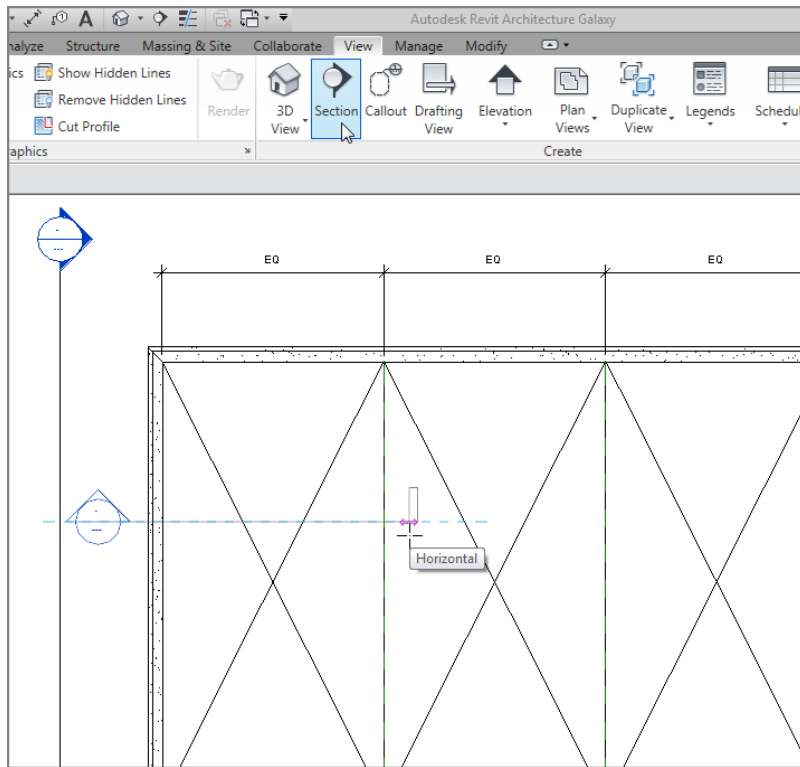

FIGURE 7.17: Adding a section through the roof at this point
2. Add a section through the roof, as shown in Figure 7.17.